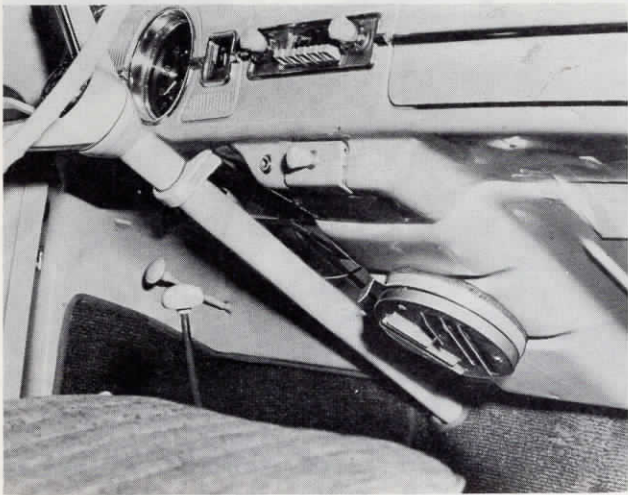

Figure 11 - Sedan
1. Supplied with the heater kit are an air distribution louver, an air shutter assembly, an adapter, a strip of gasket material, and three screws. Install these parts as follows (See Figures 11 through 13):
D. Place the louver assembly against the shutter assembly as shown in Figures 11 through 13 and secure to adapter with the three screws.